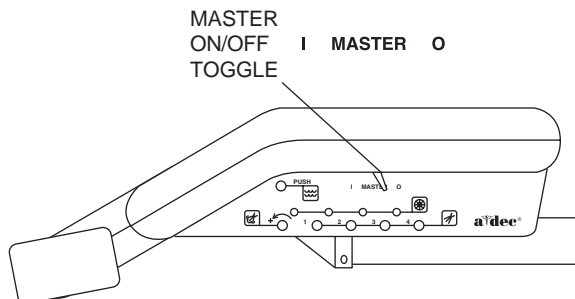

FIGURE 5: 2671 CART
4. Move the master on/off toggle to the ON position (see Figures 5 and 6).